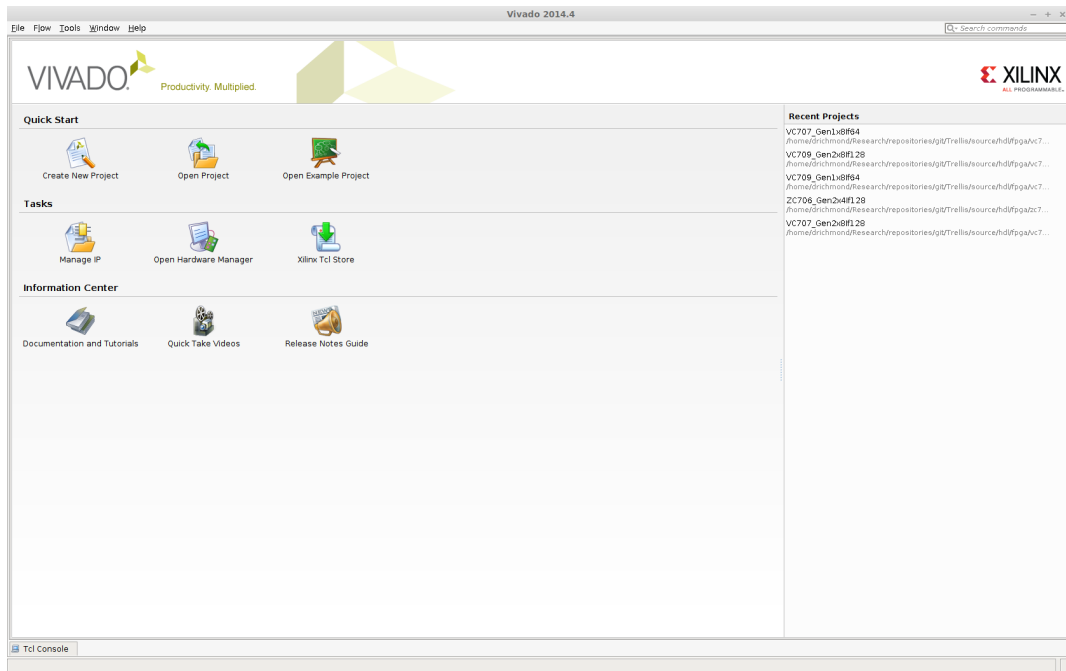

Figure 4.1: Welcome Screen for Vivado 2014.4
1. Open Vivado to get the introductory screen shown in Figure 4.1.